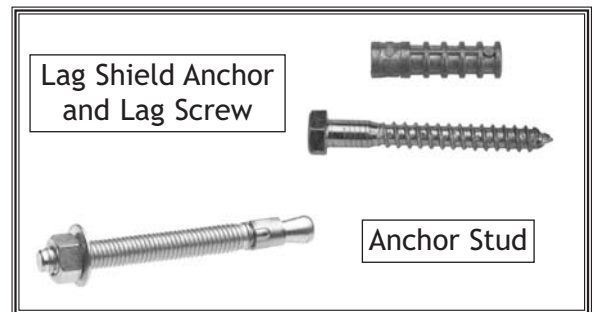

Figure 11. Typical fasteners for mounting dust collector bracket to masonry or concrete walls.
- If mounting to a concrete or masonry wall, attach the bracket using lag shield anchors with lag screws or anchor studs (see **Figure 11**).